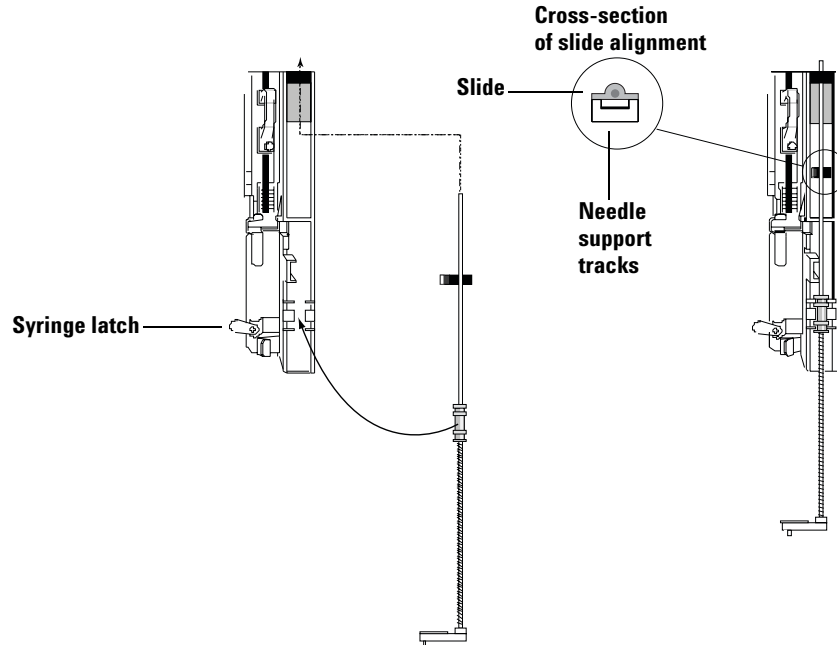

Figure 66 Installing the needle support assembly
- 7 Turn the needle support assembly so that the flat surface of the slide glides up and down the syringe carriage tracks (Figure 66).